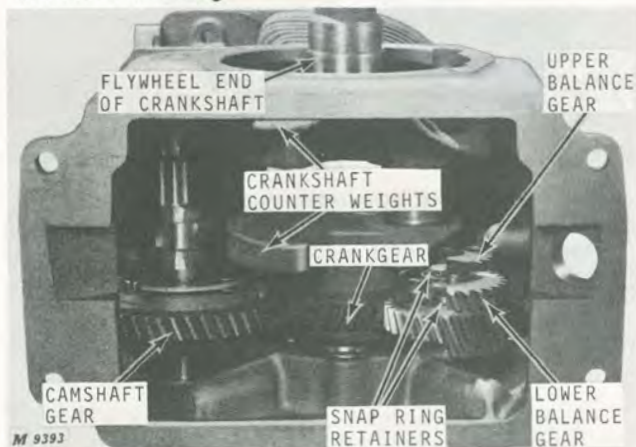

Fig. 41-Correctly Installed Balance Gears
**NOTE:** Turn crankshaft until counterweights are in position indicated in Figure 41. A straight line should be formed by the half-moon sections of the balance gears, Figure 41. If this line is not straight, one of the balance gears was inserted into the wrong tooth of the crankshaft gear. Review timing procedure described above if the straight line is not formed and correct the timing.
Gears now should be in proper alignment. When properly timed, balance gears will form a straight line when counterweights are to either side, as in Figure 41.